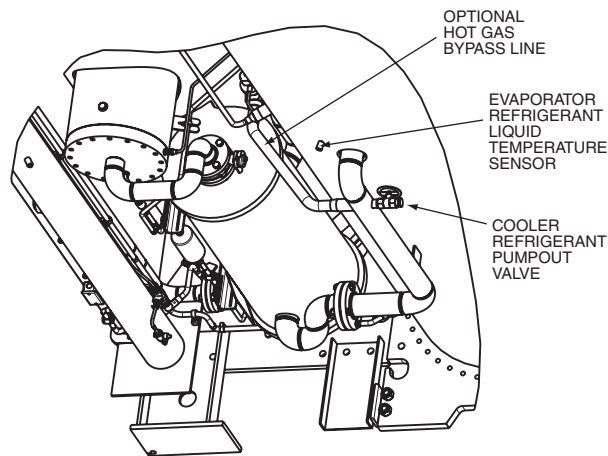

Fig. 20 — Evaporator Refrigerant Liquid Temperature Sensor on Bottom of Cooler (Units with Q,R Compressors Shown)
- a. Evaporator refrigerant liquid temperature sensor. See Fig. 20.